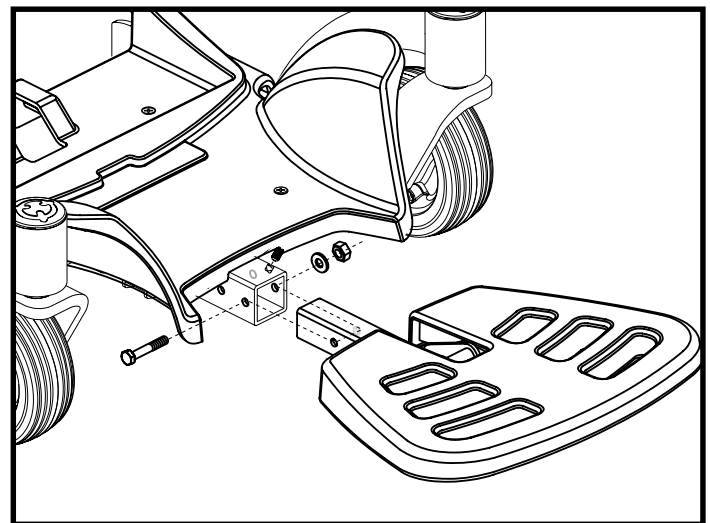

Figure 19. Foot Platform Depth
1. Remove the hardware from the foot platform bracket. See figure 19.